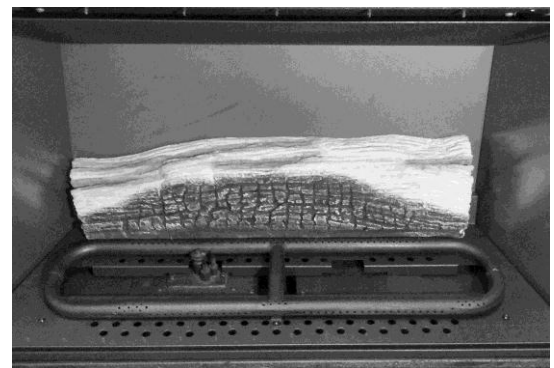

Figure 39: Rear Log Installation
1. Position rear log against the back firebox as seen in Figure 39.